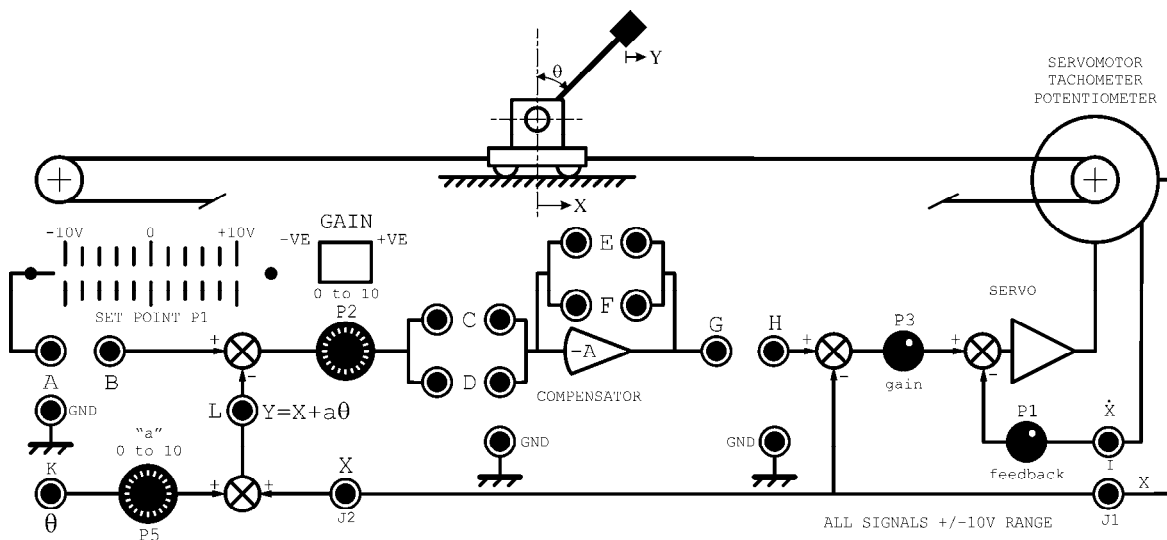

Figure 3
Ensure the power to the pendulum unit is off. Unscrew the pendulum from the mount and place to one side. By referring to figure 3, position the set-point potentiometer (P1) to 0v. Connect the set point (A) to the servo amplifier input terminal (H). Position the servo gain (P3) at maximum, and the velocity gain (P4) at approximately the halfway point. The P3 and P4 settings should remain fixed for the remainder of the lab.